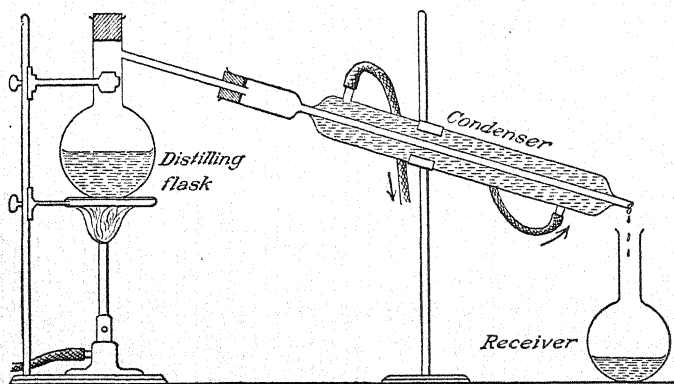

FIG. 85. — Laboratory apparatus for purifying liquids by distillation.
1. *Distillation.* In the laboratory we may distil water by using a flask with a side neck as shown in Fig. 85. The water to be distilled is placed in the flask and boiled to convert it into vapor. The condenser consists of two concentric tubes, through the outer of which cold water flows continuously. The vapor from the distilling flask passes through the inner tube and it is there cooled and condensed to a liquid by the cold water flowing around it. The distilled water is collected in the receiver.